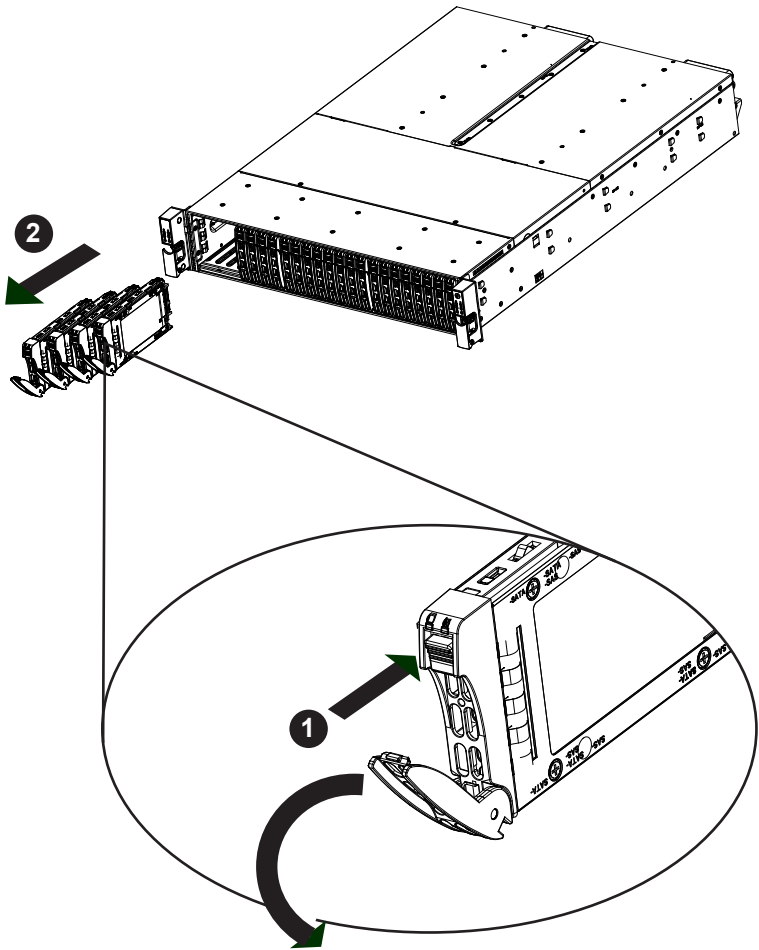

Figure 5-4. Removing a Hard Drive Carrier
2. Use the handle to pull the drive out of the chassis (Figure 5-4).